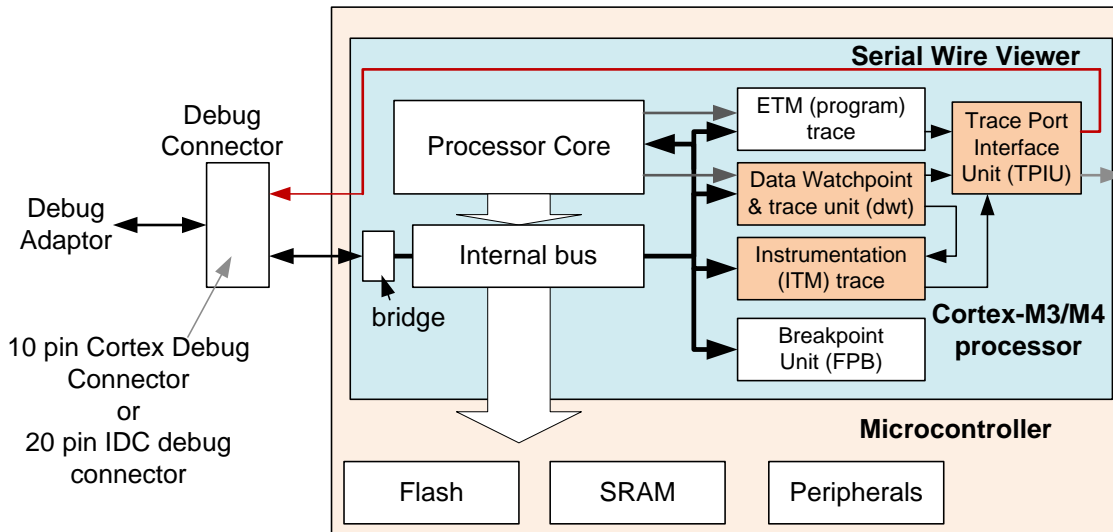

Figure 12: Serial wire viewer provides low cost, low pin count trace
- Serial Wire Viewer (SWV) – single pin trace connection that can support selective data trace, event trace, profiling and instrumentation trace. (Figure 12)